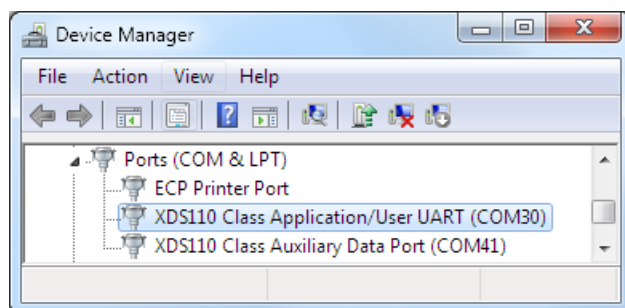
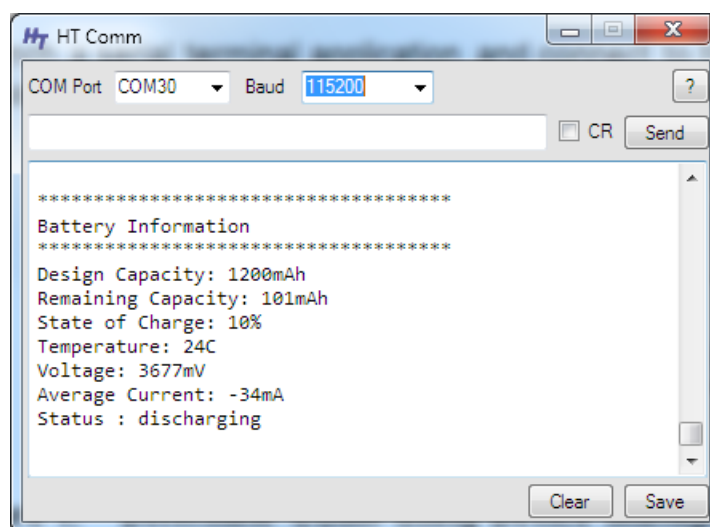

Figure 18. Determine COM Port Number Using Device Manager on Windows
Figure 19. Example Serial Terminal Configuration
4. Launch a serial terminal application and connect to the COM port for "XDS110 Class Application/User UART" at 115200 baud rate (see Figure 18 and Figure 19).